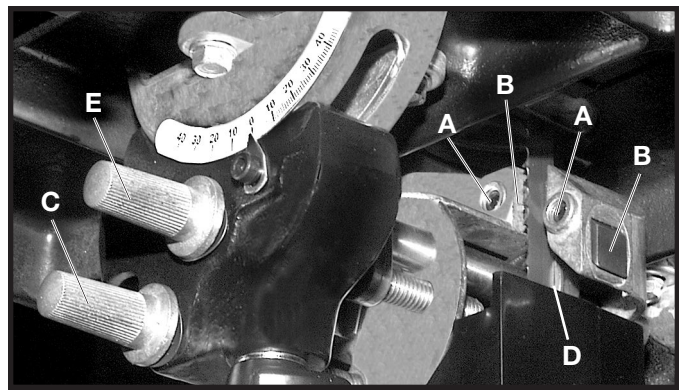

Fig. 56
1. Adjust the front edge of the guide blocks (B) Fig. 56 so that they are just behind the "gullets" of the saw teeth. Turn the knurled knob (C) Fig. 56 to make this adjustment. Check the support bearing (D) Fig. 56. It should not be touching the back of the blade.
2. Loosen the two screws (A) Fig. 56. Move the guides (B) as close as possible to the side of the blade, being careful not to pinch the blade. Tighten screws (A).
3. Turn the other knurled knob (E) to adjust the lower blade support bearing (D) Fig. 56 so that it is about 1/64" behind the back of the blade.